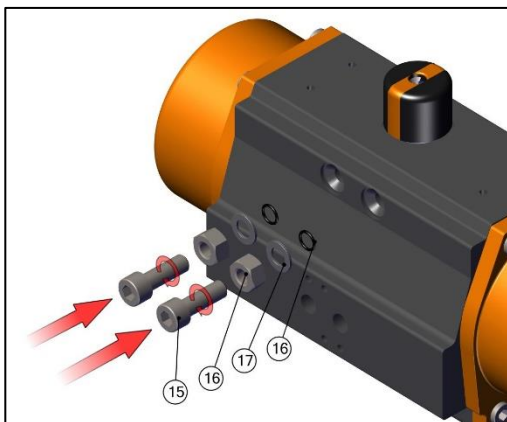

Fig No.35
- a) Insert the Stroke Bolt O-ring (18), Washer (17) & Nut (16) on to the Stroke adjustment bolt (15).
- b) Tighten the Bolt (15) into the Body (01). (refer fig no.35).